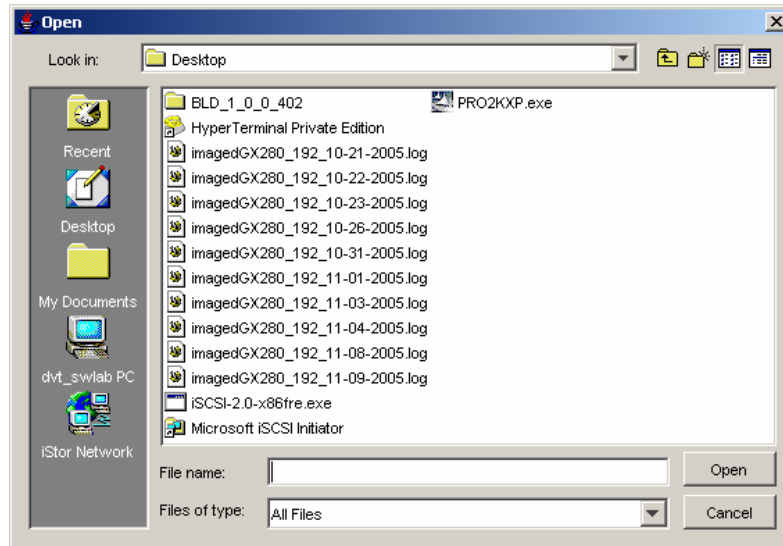

Figure E-2 Example of the Open Dialog Box
8. Click **OK** to continue. (Or click **Cancel** to exit without upgrading the firmware.) If you click **OK**, the Open dialog box appears (see Figure E-2).